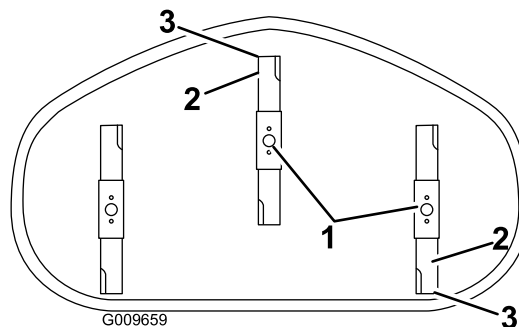

Figure 52
4. Carefully rotate the blades so they are facing front to rear (Figure 51 and Figure 52).
5. Measure from the tip of the front blade to the flat surface and the tip of the rear blade to the flat surface (Figure 51 and Figure 52). If the front blade tip is not 1/16-5/16 inch (1.6-7.9 mm) lower than the rear blade tip, adjust the front locknut.
- After adjustment, check the front-to-rear slope again. Continue adjusting the nut until the front blade tip is 1/16-5/16 inch (1.6-7.9 mm) lower than the rear blade tip (Figure 51 and Figure 52).